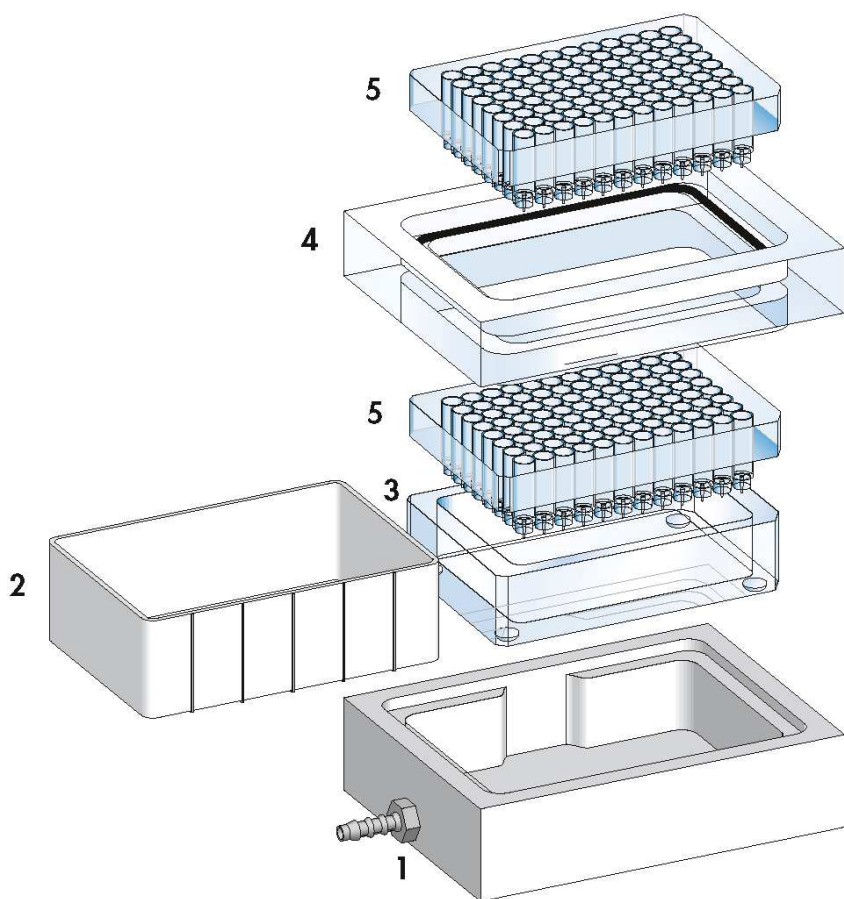

Figure 1. QIAvac 96 vacuum manifold. Components of the QIAvac 96 vacuum manifold
- QIAvac 96 vacuum manifold (see Figure 1, page 15)
QIAvac 96 facilitates the miRNeasy 96 procedure by providing a convenient, modular vacuum manifold (see Figure 1, page 15) for use with the miRNeasy 96 Kit. The following recommendations should be followed when handling the QIAvac 96 vacuum manifold.